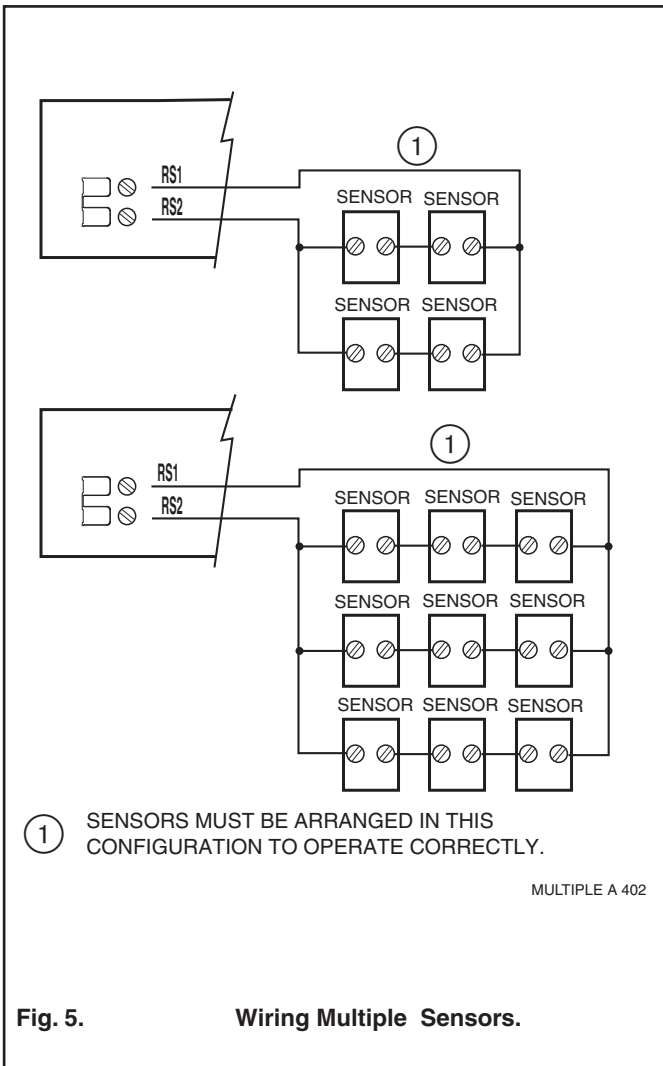

Fig. 5. Wiring Multiple Sensors.
- ① IF MORE THAN ONE REMOTE SENSOR IS REQUIRED, REFER TO FIGURE 5.
The Sensor can be used to provide one remote input (see Fig. 3) or as a temperature averaging network with multiple Sensors connected, as shown in Fig. 5.